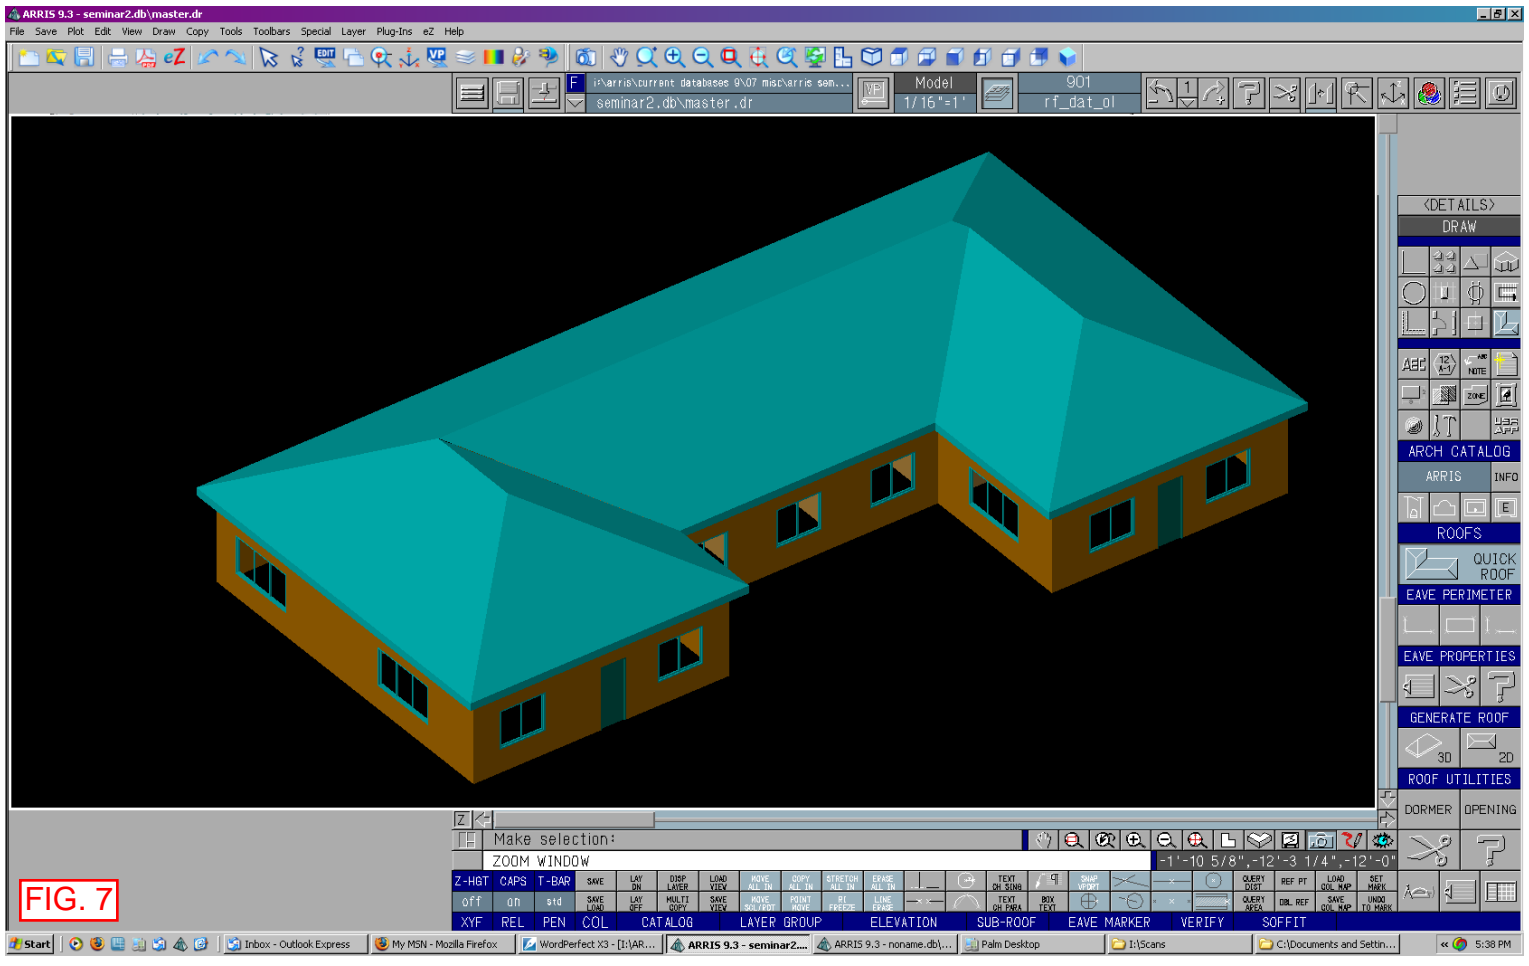

**FIG. 5**
9. Now it is time to start adding windows, doors, basic cabinets and plumbing fixtures. You do not need to add dimensions, door & window marks until later. Once again, set up, layers and accuracy up front will save you time down the line. Be sure your window and door sizes are correct. (Fig. 5)